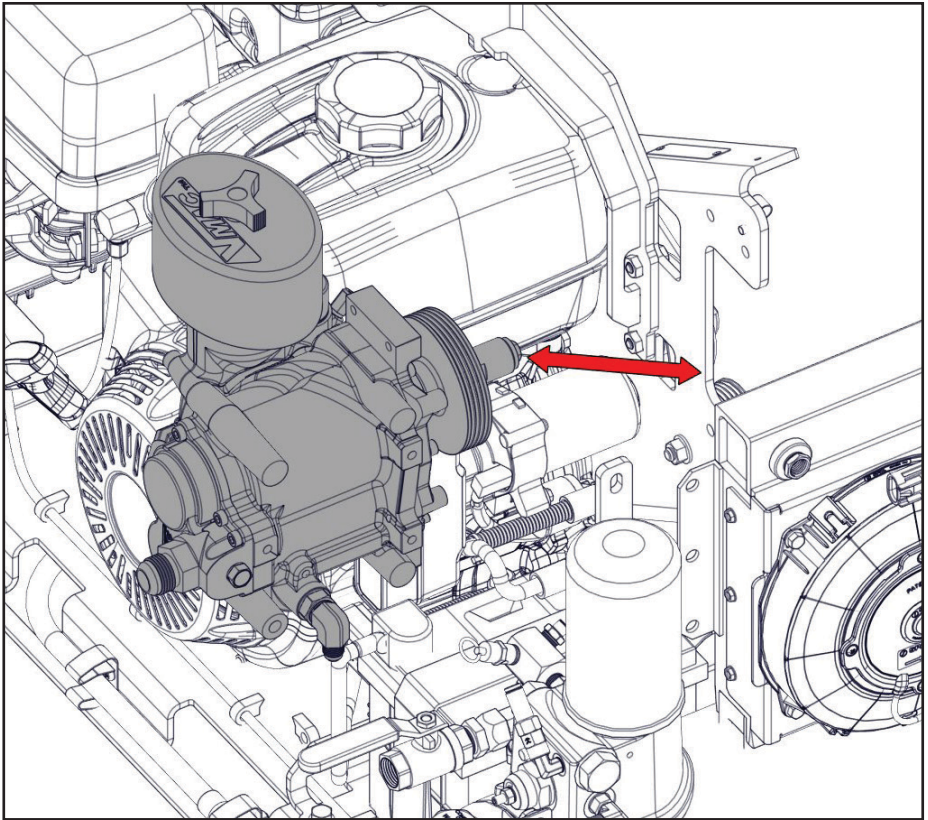

Figure 74 — Remove compressor
- Lift the compressor up and away from the belt guard to remove it (Figure 74).